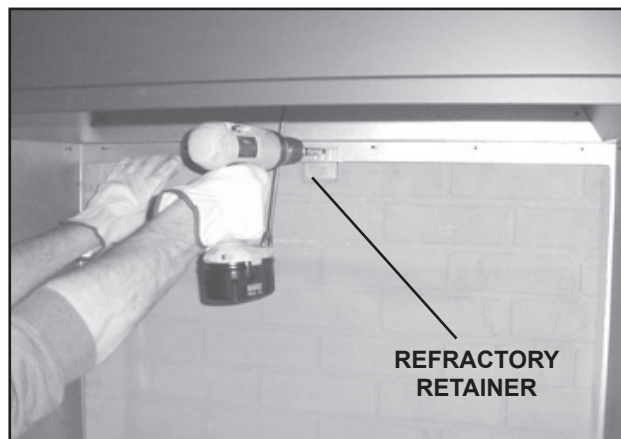

Figure 8.4 Attach Back Refractory
- Fasten in place with the refractory retainer and screws provided. See Figure 8.4.